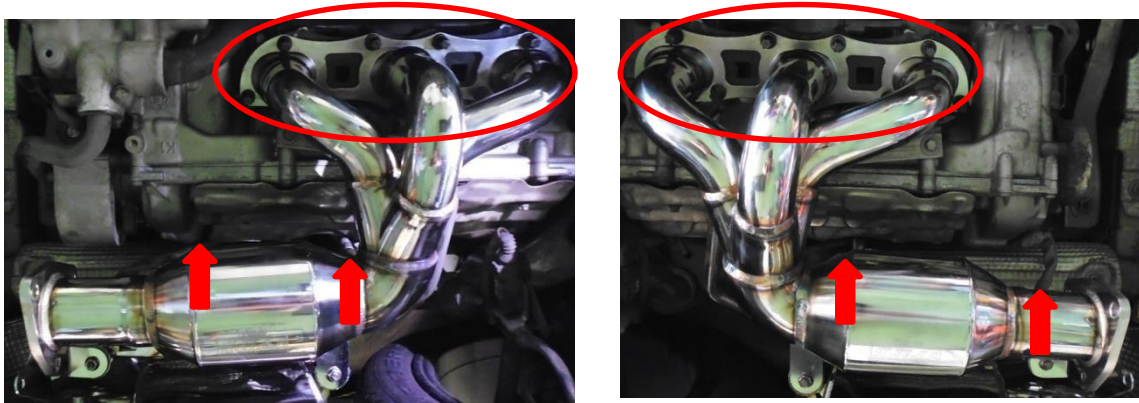

Fig 2-3
3. Use the E14 star wrench to lock the left and right headers exhaust. (Fig2-3)
4. Lock the front and rear oxygen sensor with 22mm wrench. (Fig2-3)